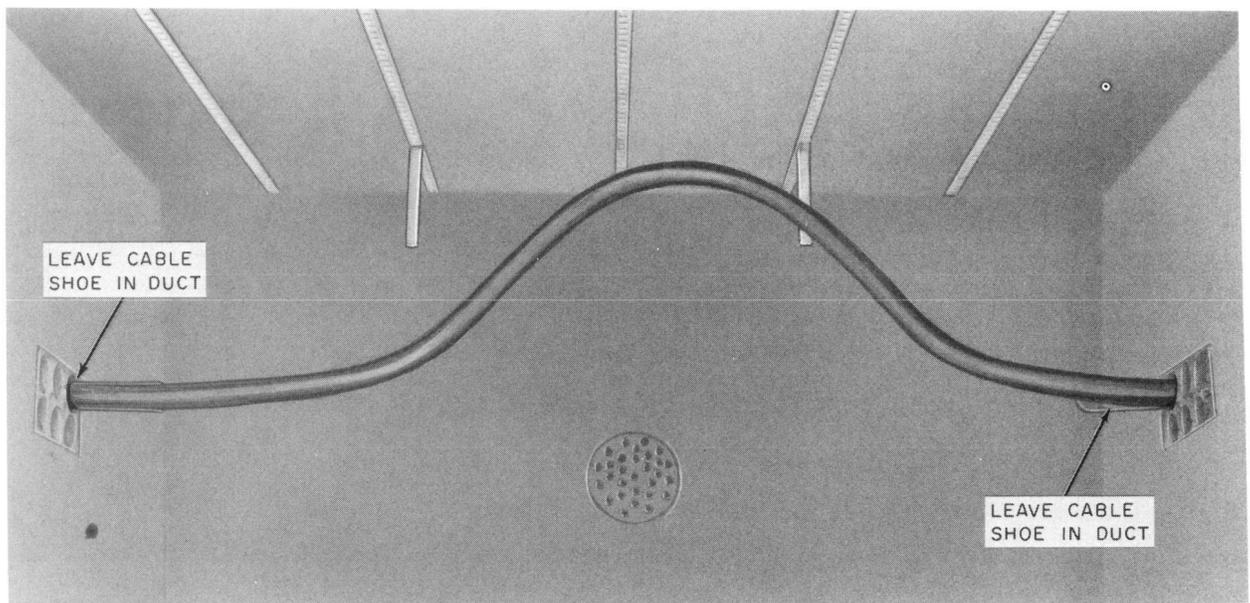

Fig. 29—Tension Free Slack in Manhole
(7) Remove the slack puller, chain hoist, and luffing grips. Leave the cable bending shoes in the ducts. The bend in the cable after the tool is removed is shown in Fig. 29.